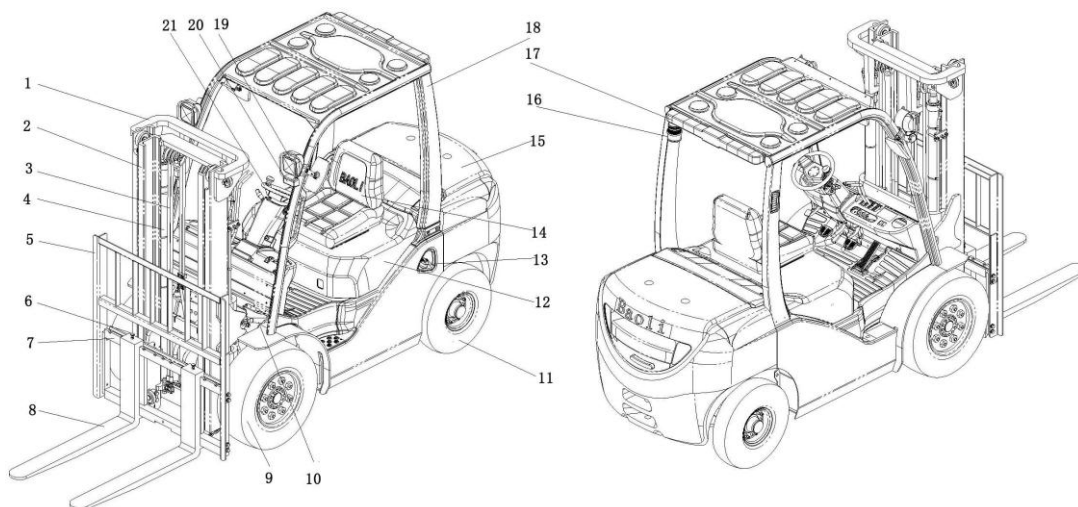

Fig1.2
5.3 Body components (Fig. 1.2)